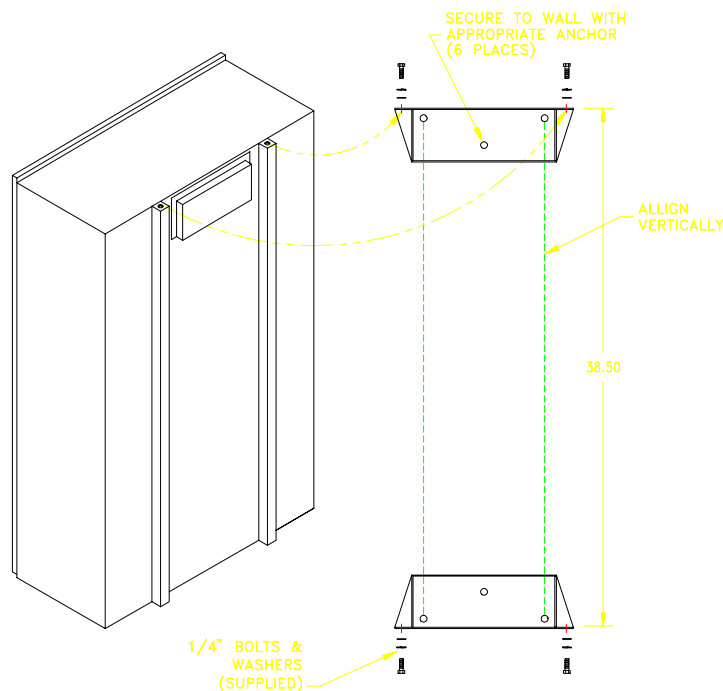

Figure 1: Wall Mount
1. Attach two mounting brackets to wall using anchors appropriate for mounting surface. **See figure 1.**